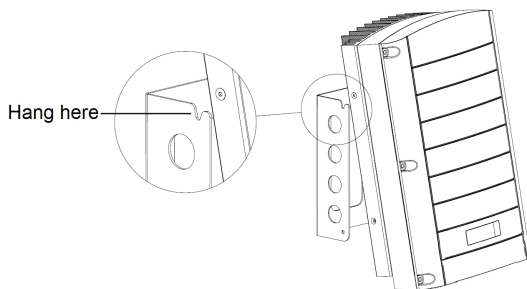
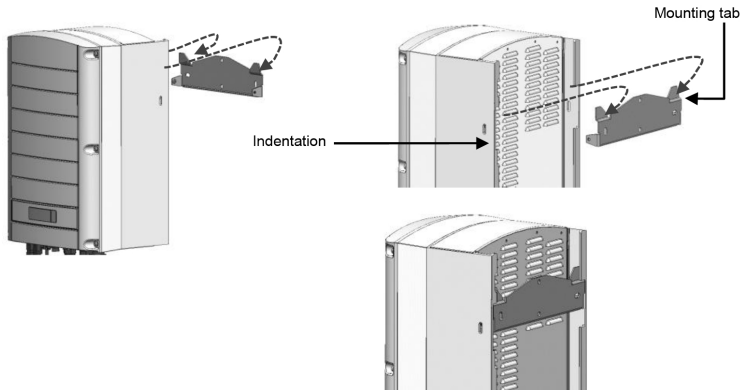

Figure 8: Hanging the inverter on the bracket - Type 1
Figure 9: Hanging the inverter on the bracket - Type 2
4. Hang the inverter on the bracket (see *Figure 8* and *Figure 9*): Lift the inverter from the sides, or hold it at the top and bottom of the inverter to lift the unit into place. Do not lift holding the Safety Switch as it may be damaged.